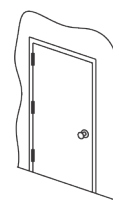

Figure 9
1. To set closed position, fully close door. Press and release CLOSE button on board. Flashing ORANGE LED should turn solid. (Figure 9)